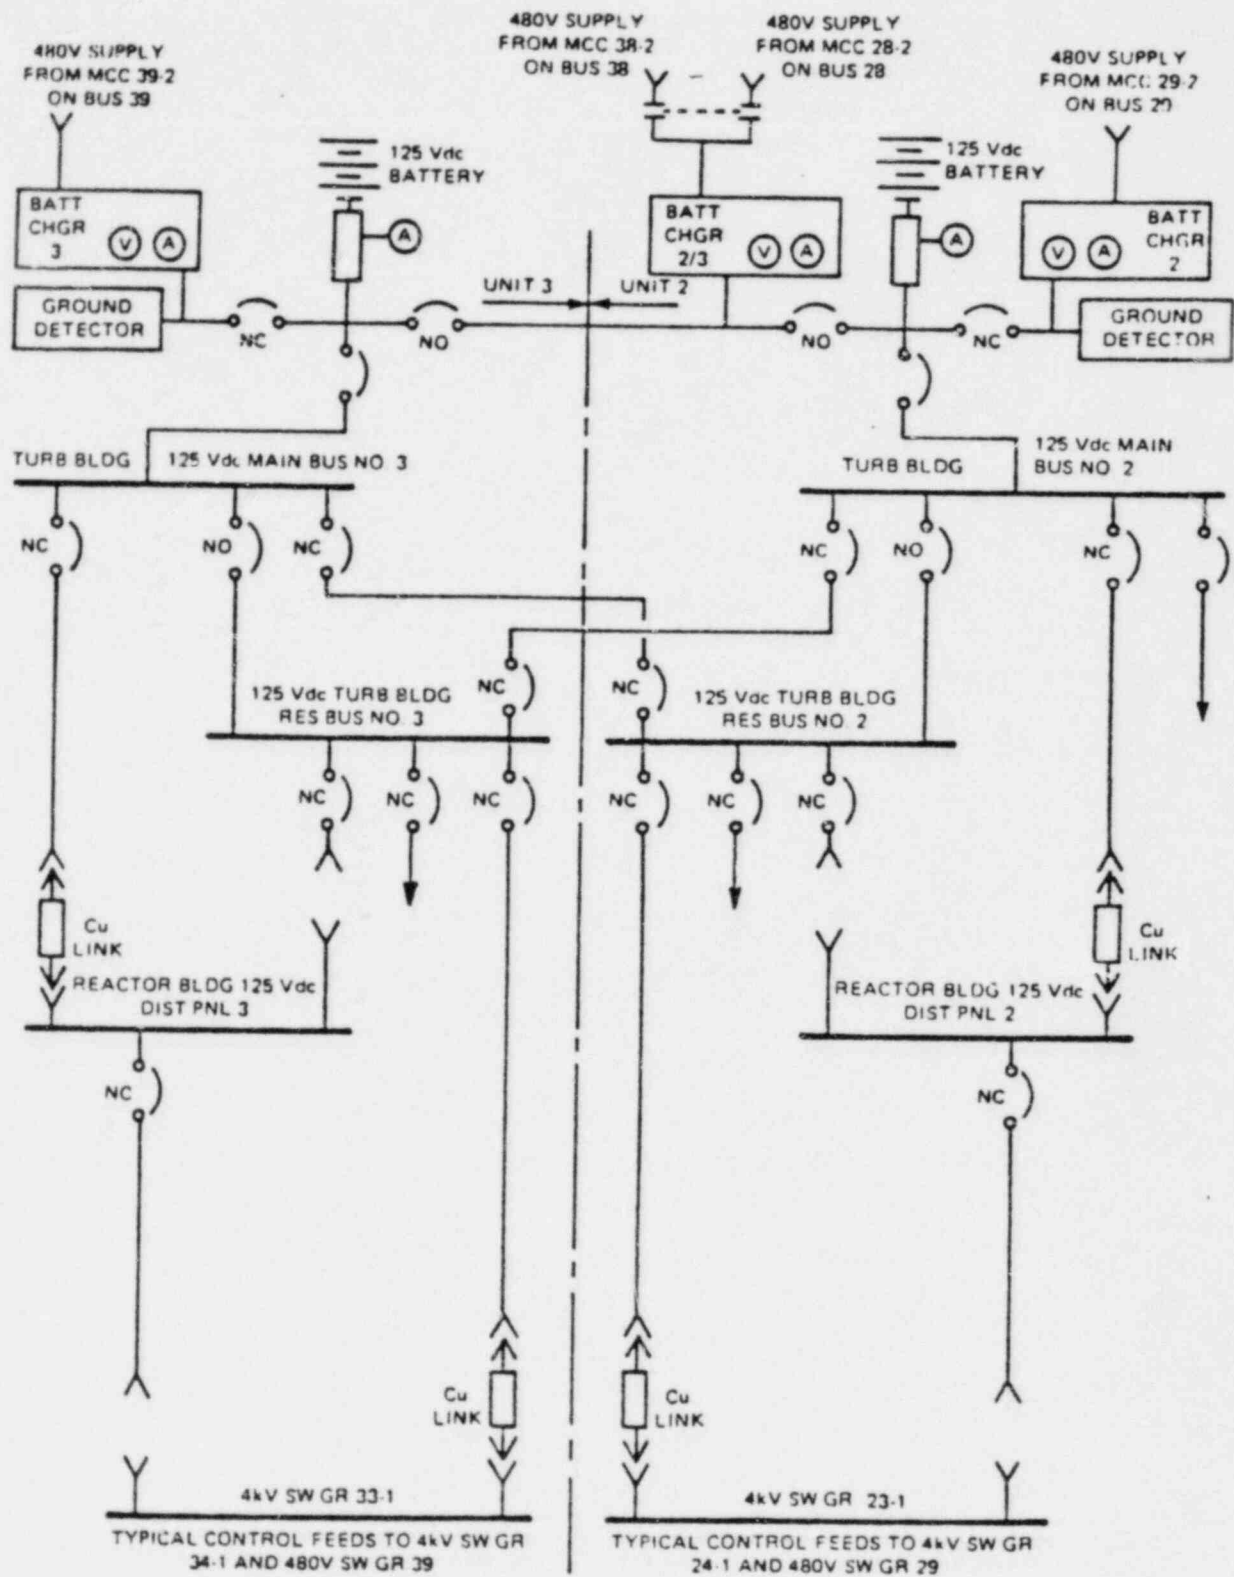

FIGURE 7. 125 Vdc STATION BATTERY SYSTEM
3. 125V DC Battery (Figure 7)
J. 3. 125V DC Battery (Figure 7) (Continued)